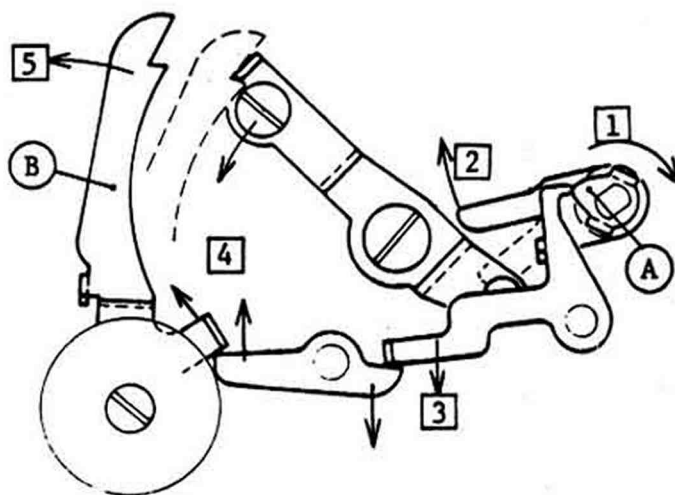

Fig. 16-2
When return the mirror lock-up lever, SLS2471T1 Mirror arm returns, simultaneously (A) turns clockwise and continuously [2], [3], [4] and [5] operate as shown in Fig 16-2. Then return the mirror to its normal position.